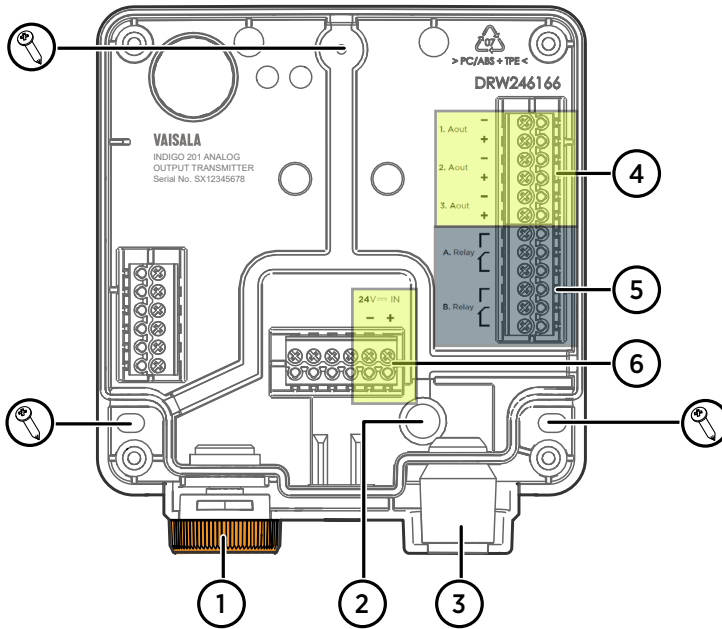

Figure 3 Indigo 201 transmitter base main parts and mounting screw positions
5. Place the transmitter base on the installation surface and mount it with 3 screws. See the screw positions in Figure 3 \(page 12\).